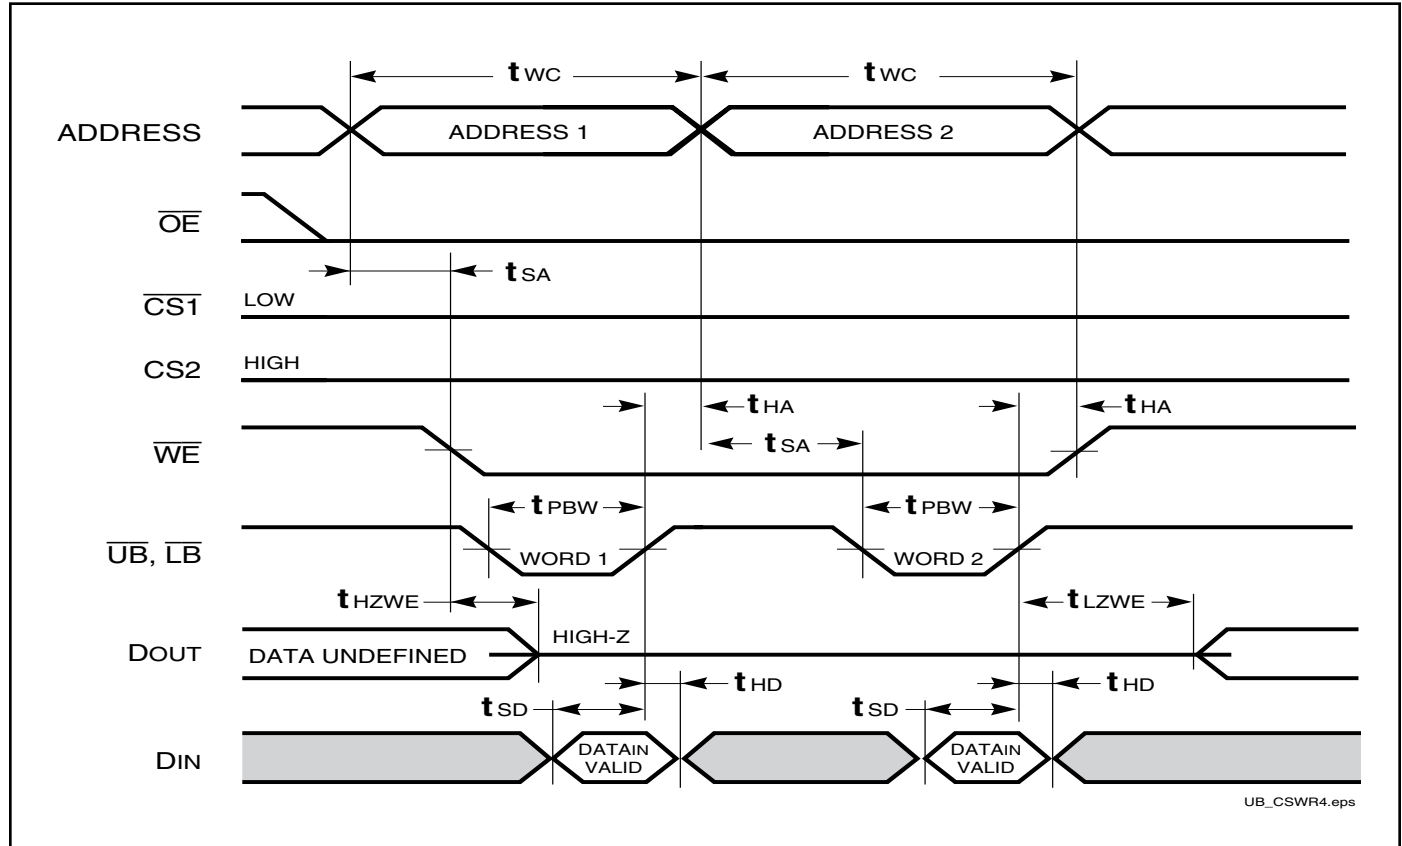
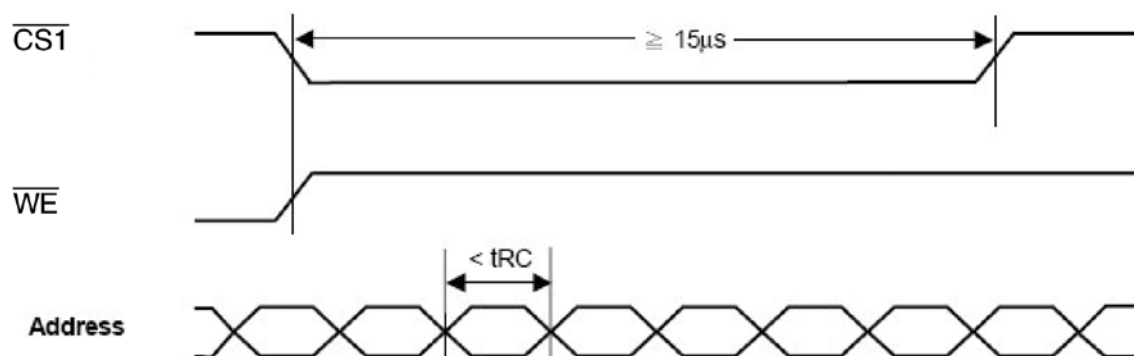

Figure 1: Avoidable Timing
Figure 2:
- Test conditions assume signal transition times of 5 ns or less, timing reference levels of 0.9V/1.5V, input pulse levels of 0.4 to VDD-0.2V/0.4V to VDD-0.3V and output loading specified in Figure 1.
- Tested with the load in Figure 2. Transition is measured  $\pm 100$  mV from steady-state voltage. Not 100% tested.
Please avoid address change for less than  $t_{\text{RC}}$  during the cycle time longer than  $15\mu\text{s}$  (Figure 1). Figure 2 & 3 provide work around solution for this issue.